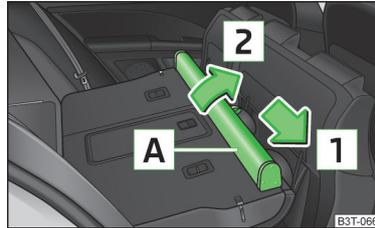

Fig. 121
- Push the housing **A** in the direction of the arrow **1** and remove it from the mounts on the right seat backrests in the direction of the arrow **2** » Fig. 121.
- Insert the recesses on the housing **A** » Fig. 121 into the mounts on the rear seat backrests.